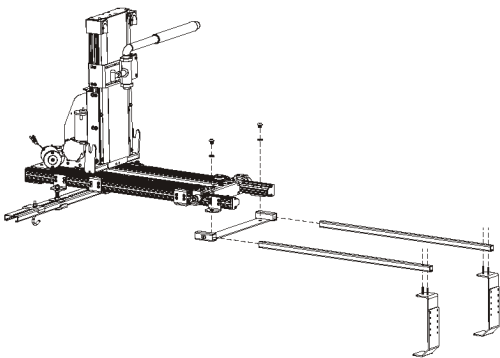

Figure 4-24
1. Overview of BA25 installation. *See Figure 4-24.*